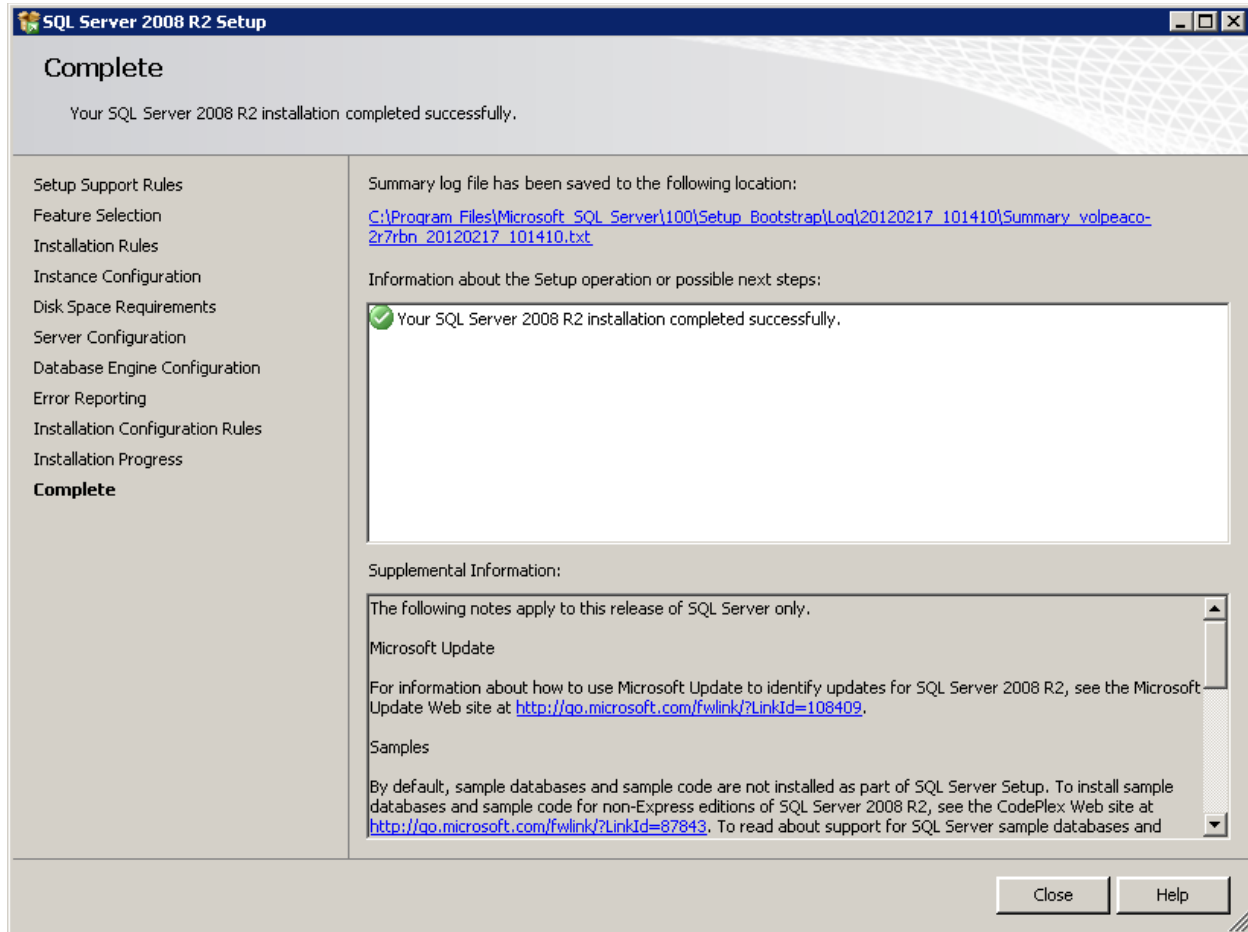

Figure 2-9 SQL Server 2008 R2 Setup – Complete
15. **Complete:** The final screen will confirm that the installation was successful (Figure 2-9). Click the *Close* button to close the *Setup* window.